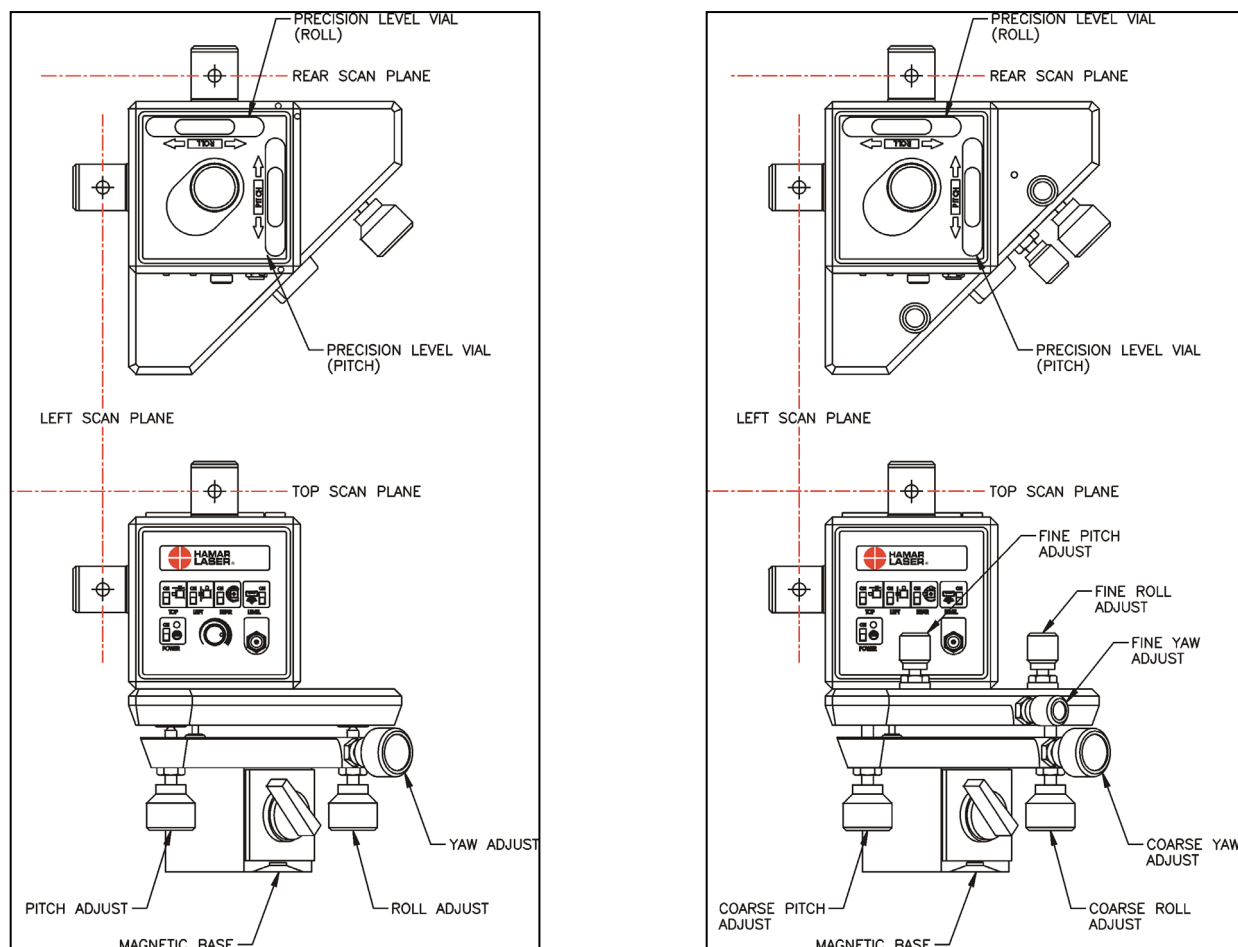

Figure 1 – L-733 Laser (left) and L-743 Laser (right) top and side views
- **Accuracy:** The L-740 Series Lasers are four times more accurate for flatness and two times more accurate for squareness than the L-730 Series. The L-730 Series Lasers have a pitch/roll/yaw base with medium adjustments and the L-740 Series Lasers have a pitch/roll/yaw base with both medium and fine adjustments (see Figure 1).